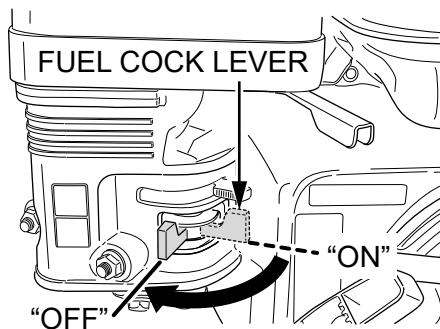

Figure 25. Fuel Cock Lever (OFF)
3. Move the fuel cock lever to the OFF position (Figure 25).